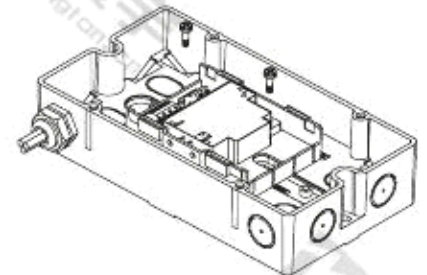

Fig. 3
- in FDCH221 housing (Fig. 3)
5. Use two M3 x 12 screws to fit the module in the housing (Fig. 3).